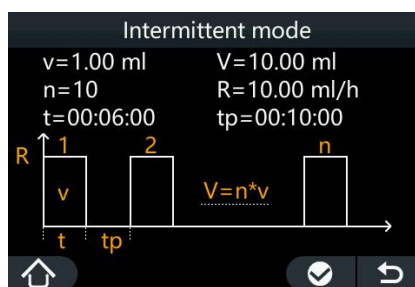

Figure 5-7
- After entering the intermittent mode interface, user can set the total VTBI, number of sequences, pause time, rate. Then automatically jump to the interface as shown in Figure 5-7.